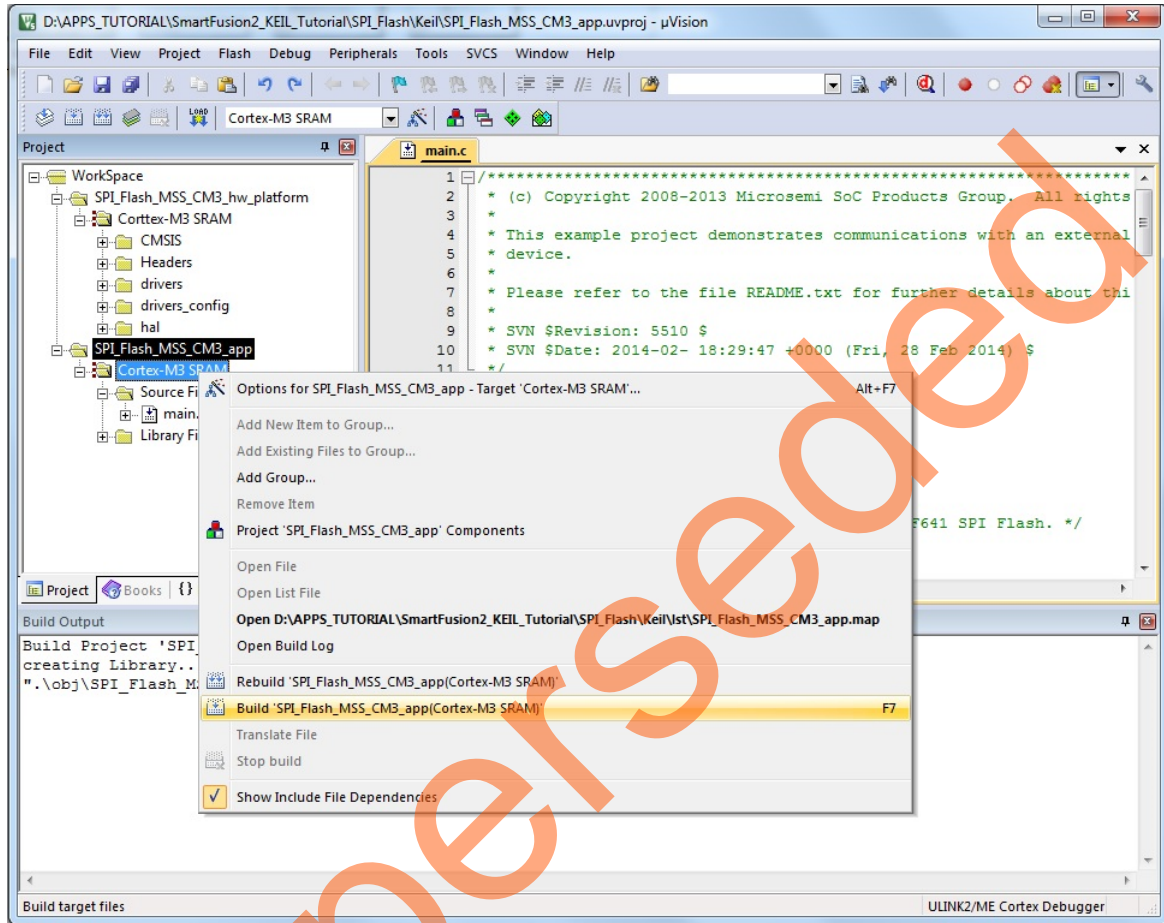

Figure 33 • Build Application Window
15. Right-click **Cortex-M3 SRAM** under **SPI_Flash_MSS_CM3_app** and select **Build SPI_Flash_MSS_CM3_app (Cortex-M3 SRAM)** as shown in Figure 33. It compiles all of the source files and links the object files into an AXF file to debug. Make sure that there are no errors. Correct any syntax errors and rebuild if necessary.